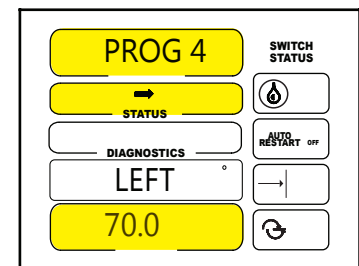

Figure 61-4
2. Set left angle of sector and the direction. See figure 61-4.